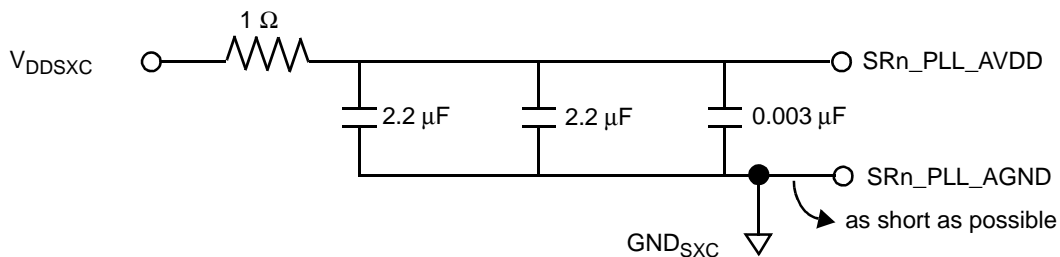

Figure 38. SerDes PLL Supplies
- Couple inputs SR1\_PLL\_AVDD and SR2\_PLL\_AVDD with SXCVD1 and SXCVD2 power rails, respectively, using an RC filter (see Figure 38).
Each SerDes PLL power supply must be filtered using a circuit similar to the one shown in Figure 38, to ensure stability of the internal clock. For maximum effectiveness, the filter circuit should be placed as closely as possible to the SRn\_PLL\_AVDD ball to ensure it filters out as much noise as possible. The ground connection should be near the SRn\_PLL\_AVDD ball. The 0.003 μF capacitor is closest to the ball, followed by the two 2.2 μF capacitors, and finally the 1 Ω resistor to the board supply plane. The capacitors are connected from SRn\_PLL\_AVDD to the ground plane. Use ceramic chip capacitors with the highest possible self-resonant frequency. All trances should be kept short, wide, and direct.